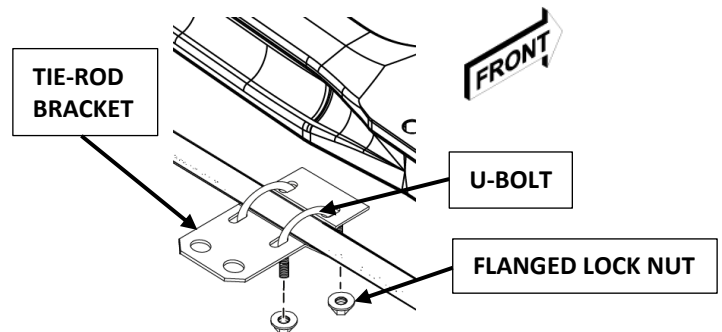

FIGURE 3. TIE-ROD BRACKET INSTALL TO TIE-ROD
- On passenger's side of Tie-Rod, place **Tie-Rod Bracket** on bottom of the Tie-Rod. With **U-Bolt** threads facing down, loosely install **Tie-Rod Bracket** onto Tie-Rod with two **U-Bolts** and four **Flanged Lock Nuts** (Figure 3).
9. Rotate **Tie-Rod Bracket** assembly until SAFE T PLUS® unit is parallel to Tie-Rod and is able to move freely without potential contact with any other parts on vehicle. Using a torque wrench with a 9/16-inch socket, torque four **Flanged Lock Nuts** to **25-35 foot pounds** (*Figure 3*).
5. For the person outside of the vehicle, gain access to SAFE T PLUS[®] unit. Using a socket wrench with a 9/16-inch socket, and loosen **Flanged Lock Nuts** on Tie-Rod Bracket **U-Bolt** and allow the SAFE T PLUS[®] unit to freely move to its centered position. Once the SAFE T PLUS[®] unit rests at its centered position, using a torque wrench with a 9/16-inch socket, torque Tie-Rod Bracket **Flanged Lock Nuts** to **25-35 foot pounds** (*Figure 3*).
6. Repeat road test until vehicle is able to maintain a straight trajectory. If centering the SAFE T PLUS[®] unit requires more than 2 or 3 attempts, please contact our technical support team at (770) 322-8727 for further assistance.